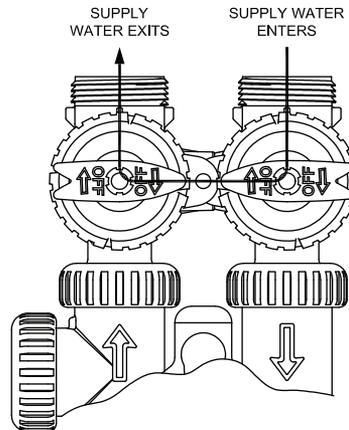

Figure 3
- 1) Turn the Inlet side on the Red-Handled Bypass to the Diagnostic Mode (leave the outlet closed for now) (See 'Diagnostic Mode' pg 13, Fig 3). Slowly open the home's main shutoff valve (only partially at this time) and allow the filter to fill. Check for leaks. Address any leaks. If no leaks are present, open the home's main shutoff valve.
- 3) Diagnostic Position: The inlet handle points in the direction of flow and the outlet handle points to the center of bypass valve. System water pressure is allowed to the Control Valve and the plumbing system while not allowing water to exit from the Control Valve to the plumbing. (See 'Diagnostic Mode' pg 13, Fig 3)